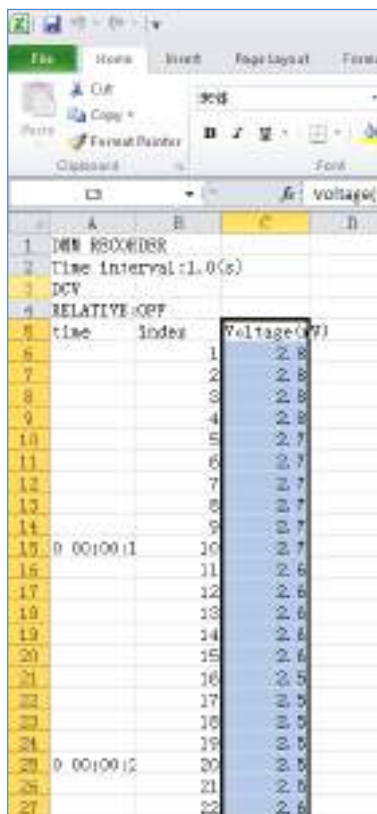

Figure 6-4
2. Select the data that you want to chart (see *Figure 6-4*).